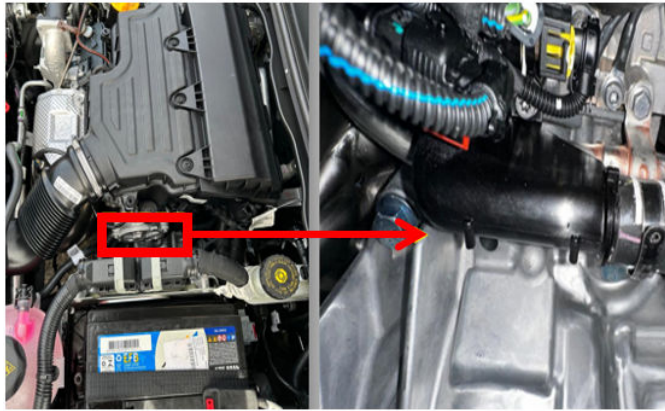

Fig. 1
3. Inspect the thermostatic valve and it surrounding area for evidence of leaking coolant Fig. 1.